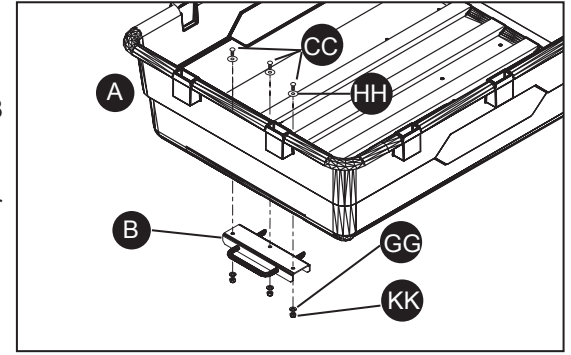

Fig. 9
7. Attach the dump lock assembly (B) to the tray (A) using three M8 x 35mm carriage bolts (CC), three M8 lock nuts (KK), three M11 washers (HH), and three M8 washers (GG), as shown in Fig. 9. If the dump lock assembly (B) does not engage when you lower the cart tray (A), please double check the placement of the rear frame (D) in Step 4.